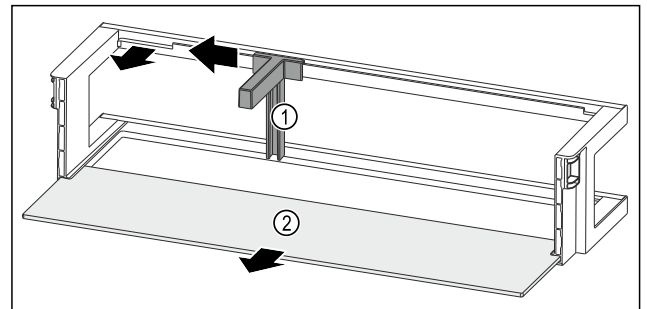

Fig. 51 Door rack with bottle holder and shelf
- ▶ Slide the bottle holder Fig. 51 (1) to the side as far as the recess.
- ▶ Remove the bottle holder Fig. 51 (1).
- ▶ Remove the shelf Fig. 51 (2).